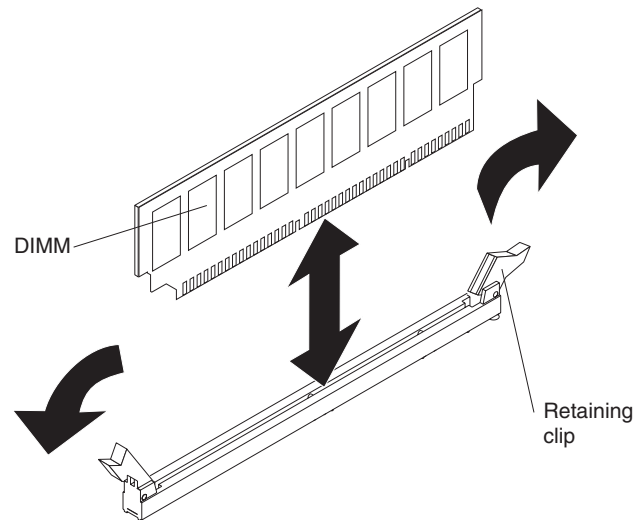

Figure 21. Removing a DIMM
7. Carefully open the retaining clips on each end of the DIMM connector and remove the DIMM (see Figure 21).